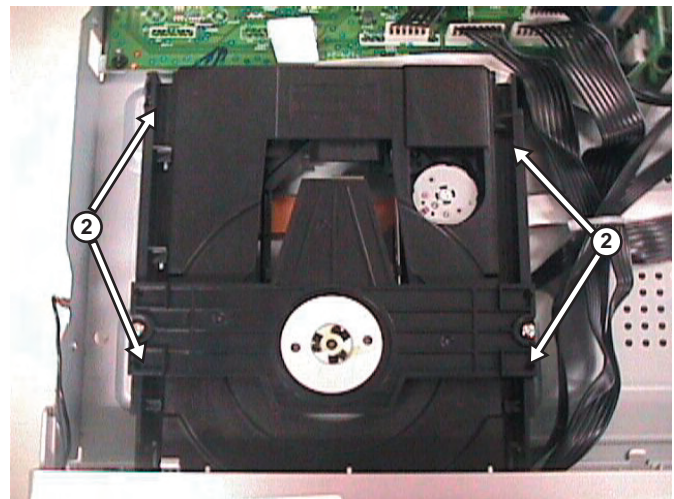

Figure 4-4
- 3) Loosen 4 screws (See Figure 4-4) to remove the DVD Loader.